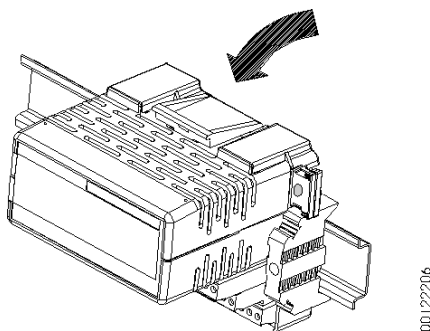

Figure 30: Module Fixation
2. Once the module is securely plugged into the base, push the base upper lock towards the module (see Figure 30).